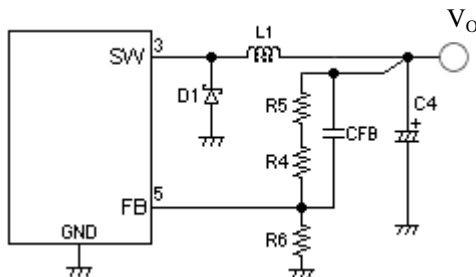

Figure 11-8. Using Electrolytic Capacitor
*When ESR is about 150 mΩ, C_{FB} connects to between FB pin and V_O as shown in Figure 11-8. The value of C_{FB} is about 220pF to 2200pF.